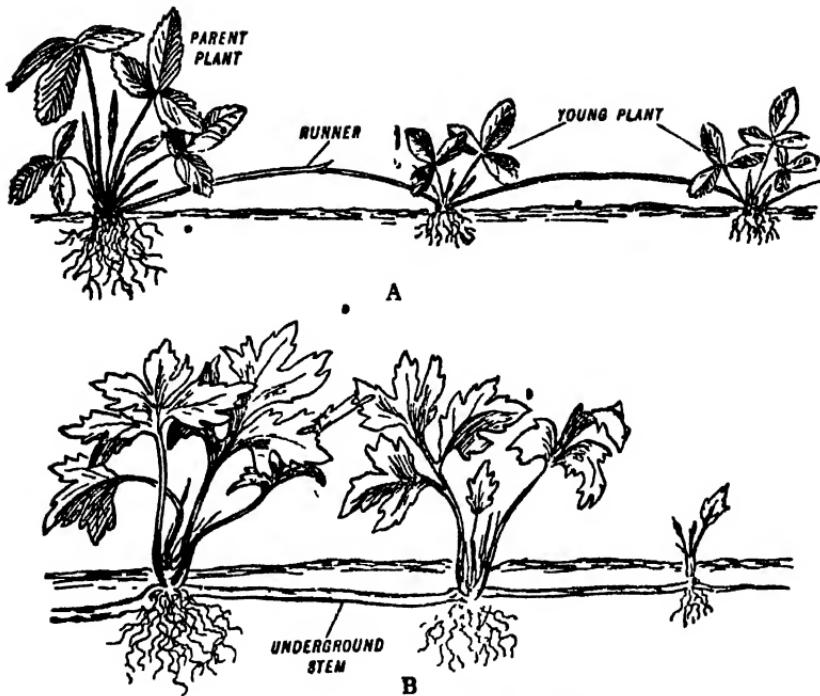

Fig. 129. Runners. A, Strawberry. B, Buttercup.
side outgrowths, but these are always like the root. Because of this it is easy to distinguish roots from stems even though the stem may be underground as in the Buttercup (Fig. 129*B*).
1. Runners. These are really creeping stems, which grow underground in the Buttercup, but above ground in the Strawberry (Fig. 129). Each one has a bud at its tip which can produce a new plant; roots which are adventitious grow out from its base. The creeping stem then dies and the new plant is free.